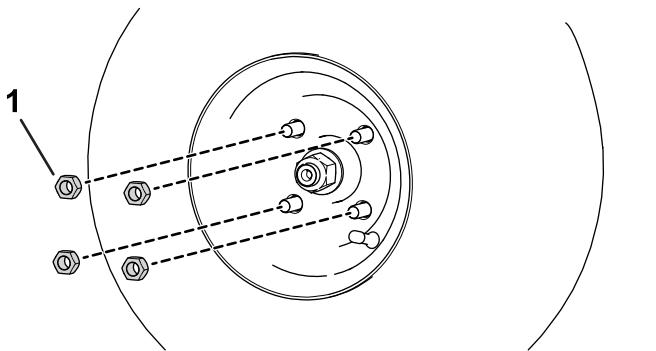

Figure 60
- A. Loosen and remove the wheel lug nuts (Figure 60).
- B. Install the wheel lug nuts (Figure 60).